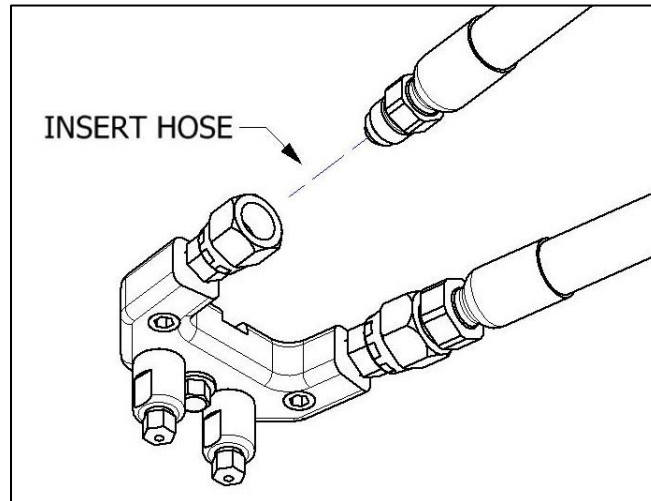

Figure 6: Coupling Hose Installation
3. Install hose to the **Coupling Block** (see Figure 6).